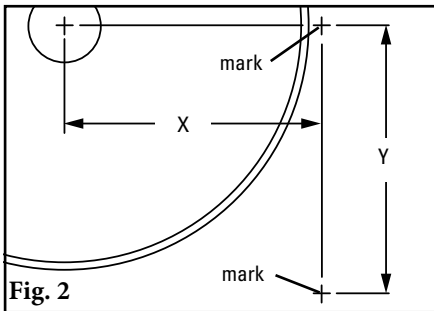

Fig. 2
2. **Lay out the dimensions on the chute wall or on mounting plate kits (optional if not installing in a chute).** Measure out the X dimension horizontally from the center of the pulley shaft and mark. (NOTE: It may be easier to put a level on top of the pulley shaft, draw a horizontal line and then measure down half the diameter of the shaft and make a line from the front of the shaft. Now subtract half the pulley shaft diameter from the X coordinate and measure on the line and make a mark.) Then measure down vertically the Y dimension and mark. This is the correct position for the center of the cleaner pole (Fig. 2). If using a mounting plate kit (ref. Page 6), install so that center of pole is centered on plate. Ensure there is room for entire mounting base template inside the edges of the plate. Lay out and mark the same dimensions on the other side.